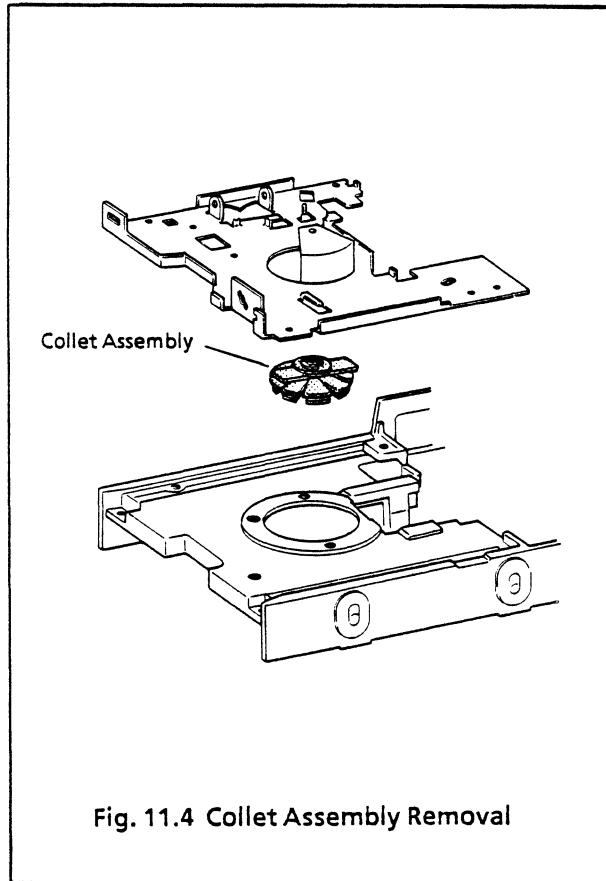

Fig. 11.4 Collet Assembly Removal
11.4 Collet Assembly Removal, Installation, and Adjustment (See Fig.11.4)